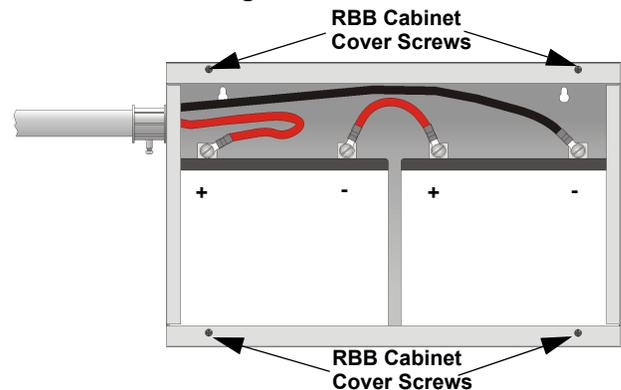

Figure 3: Battery Connections in the RBB Cabinet
3. Run extended battery cable from control panel cabinet through conduit to RBB cabinet. See Figure 3.
*Note:* Figure 3 is an example of how the wire connections can be routed. However, any other cabinet knock-outs (on either the main control panel or the RBB cabinet), that are not previously being used may be utilized to connect conduit between the two cabinets.
4. Connect battery leads to the backup battery terminals. See Figure 3.
5. Insert the RBB cover screws into the cover mounting holes. See Figure 3.